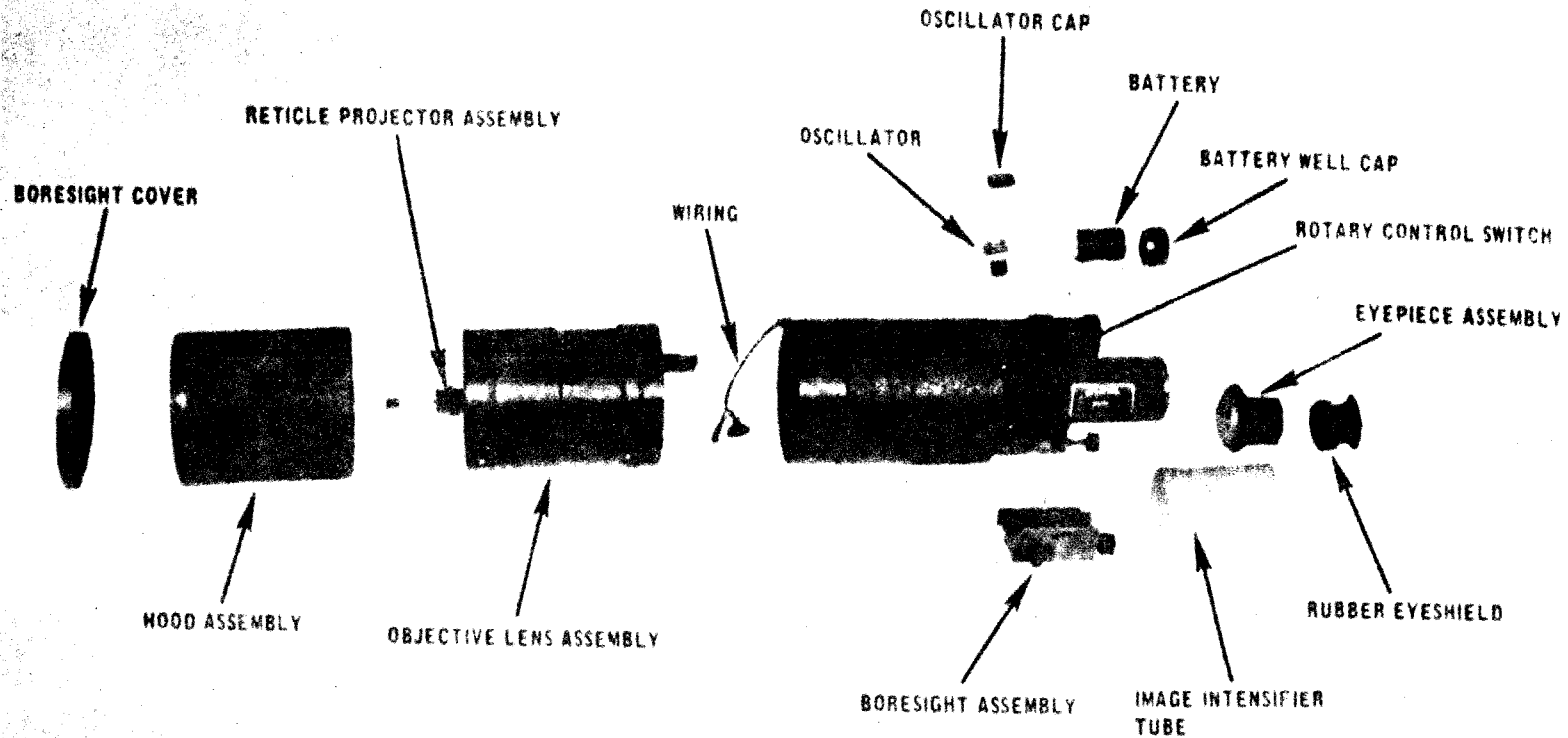

Figure 2. Major components.
*c. Sight.* The Sight (fig 2) consists of the Sight body, objective lens assembly, reticle projector assembly, eyepiece with rubber eyeshield, image intensifier tube, integral high-voltage power supply, a rotary control switch with wiring, and a boresight assembly. The in-line eyepiece is used with the Browning machinegun caliber .50 HB M2, and the right angle eyepiece is used with the 106-mm recoilless rifle M40A1. A 6.75-volt mercury battery provides the power for integral high-voltage power supply, cant level illumination, and the reticle projector assembly. The rotary control switch has four positions: OFF, CANT LEVEL ILLUMINATION ON, TUBE ON, TUBE ON RETICLE ON. The boresight assembly is attached to the bottom of the Sight body. A boresight cover is provided for protection of the image intensifier tube when the Sight is used during daylight hours.
**16. Functioning (Fig 2).** *a. Power Supply.* When the rotary control switch is moved to the third or fourth position (TUBE ON, TUBE ON RETICLE ON) the 6.75-volt battery furnishes the power to the oscillator. The oscillator receives this voltage and increases it from 6.75 volts to 2,800 volts. The increased voltage is transmitted to the multiplier plate on the image intensifier tube. The multiplier plate insures that each stage of the three-stage image intensifier tube receives the required voltage for operation.